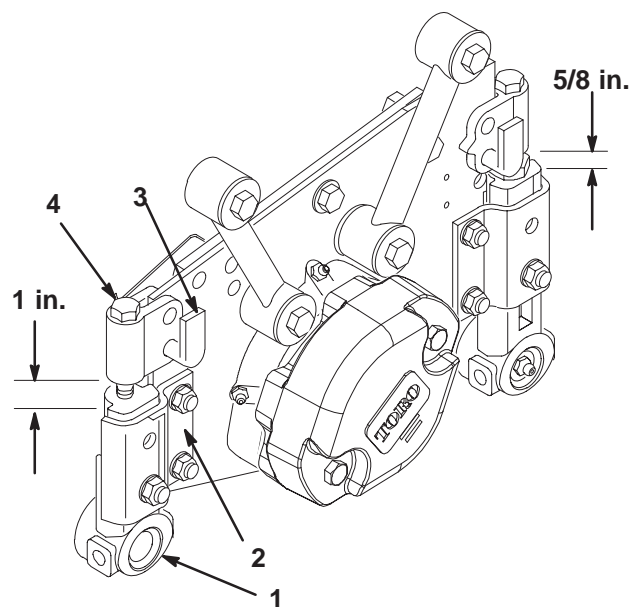

Figure 8
2. Adjust support capscrew to achieve 1 in. \pm 1/16 (25mm \pm 1.5mm) dimension between height-of-cut support and front roller bracket (2 places) (Fig. 8).
3. Adjust support capscrew to achieve 5/8 in. \pm 1/16 (16mm \pm 1.5mm) dimension between height-of-cut support and rear roller bracket (2 places) (Fig. 8).